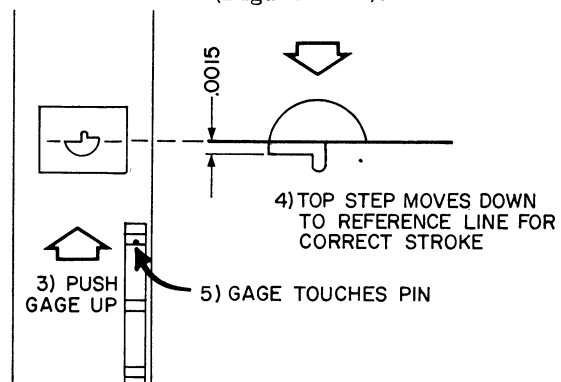

Figure 4-10. CLAW PULL DOWN STROKE
- g. Lift or push Gauge up. Projected Target will move down. Upper Target step must touch reference line drawn in Step (f) for correct stroke. (Figure 4-10).
- j. Lift or push Gauge up. Projected Target will move down. Upper Target step must touch reference line drawn in Step (f) for correct stroke. (Figure 4-10).